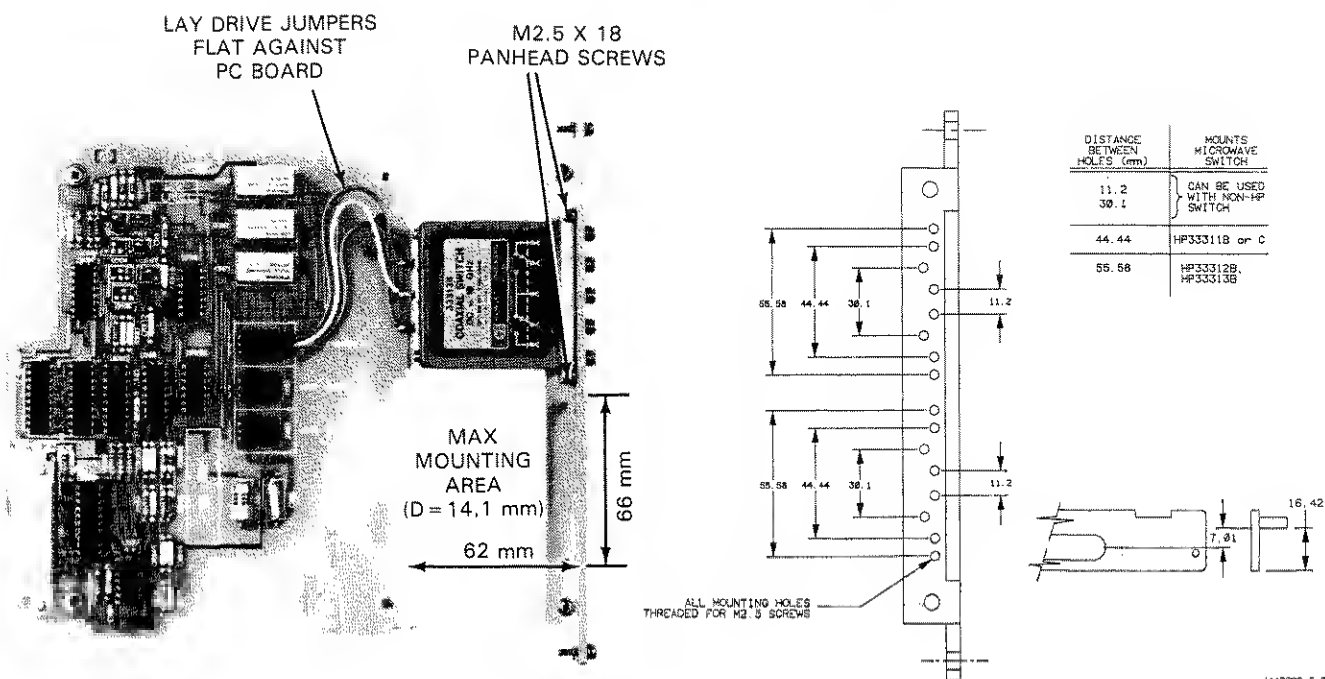

Figure 6. Mounting the Microwave Switch.
2. Figure 6 shows an HP 33313B Option 011 5-port switch mounted on the module. Two panhead M2.5 x 18 mm long screws through the switch and into the module panel mount the switch. The tapped holes in the panel accommodate HP 3331X type microwave switches. The illustrated portion of Figure 6 identifies which mounting holes go with which type of microwave switch. Also shown are the maximum switch dimensions that can be accommodated by the HP 44476B if non-HP switches are used.